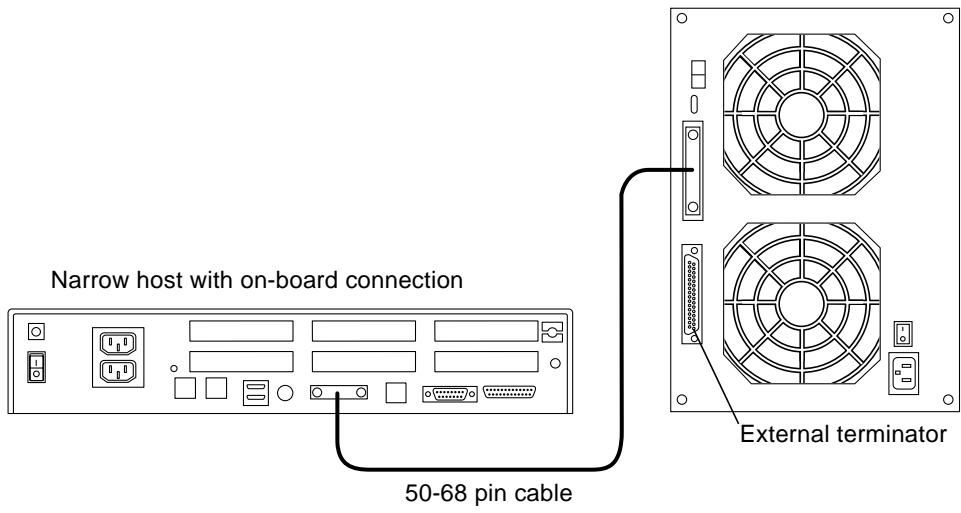

FIGURE C-4 SPARCstorage MultiPack 2 Chained with a Narrow SCSI Device
- Connect a narrow SCSI device (50-pin) to the narrow SCSI host system. An example is shown in FIGURE C-4.